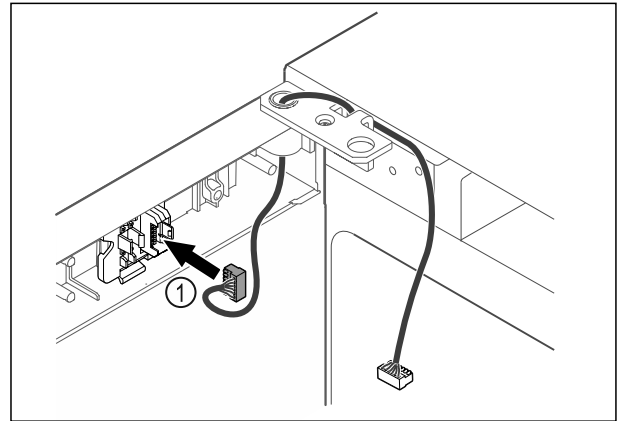

Fig. 48
- Put the plug Fig. 48 (1) in the plug holder.